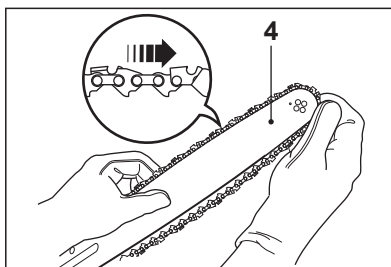

Fig. 1b
- 5). Spread the saw chain (3) out with the cutting edges of the chain pointing in the rotational direction and slide the chain into the groove around the guide bar (4) (Fig. 1b).